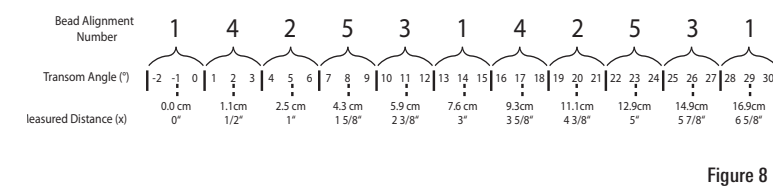
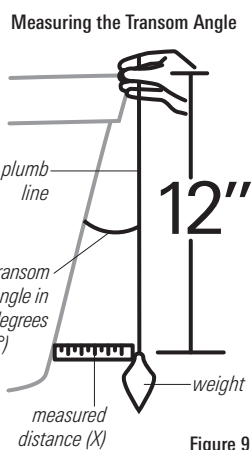

Figure 8
Figure 9
- 1a. If you already know your transom angle, refer to the chart below for the initial position to use to set the ratchets (Figure 8). If your transom is angled at 14 degrees (a common transom angle for many boats) use position 1 for the ratchets. In either case, go to step 2.
- 1b. If you do not know your transom angle, measure it using a plumb line (weighted nylon string or monofilament line) exactly 12 inches long. Hold the top of the plumb line against the top of the transom with your finger, and wait until the line hangs straight down (Figure 9). Using a ruler, measure the distance from the bottom of the plumb line to the back of the transom, then use the chart (Figure 8).